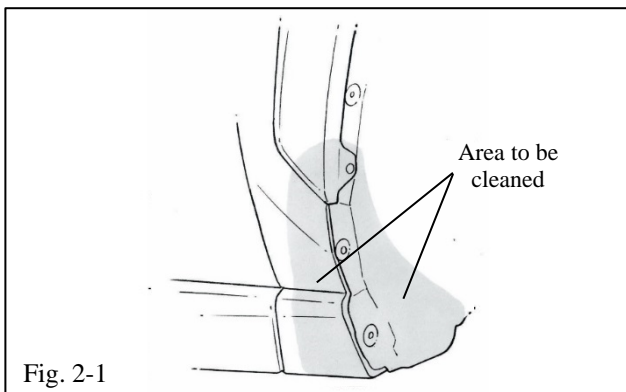

Fig. 2-1
-  (a) Clean and degrease the front body panel where the mudguard is to be located with a clean cloth and soap/water mixture (Fig. 2-1).